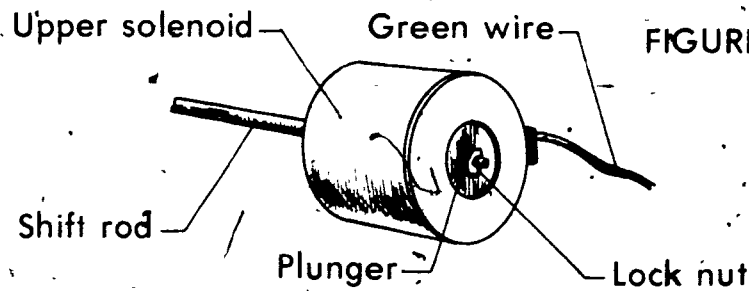

FIGURE 6
5. Install upper solenoid assembly with plunger and shift rod assembly into gearcase (Figure 6)